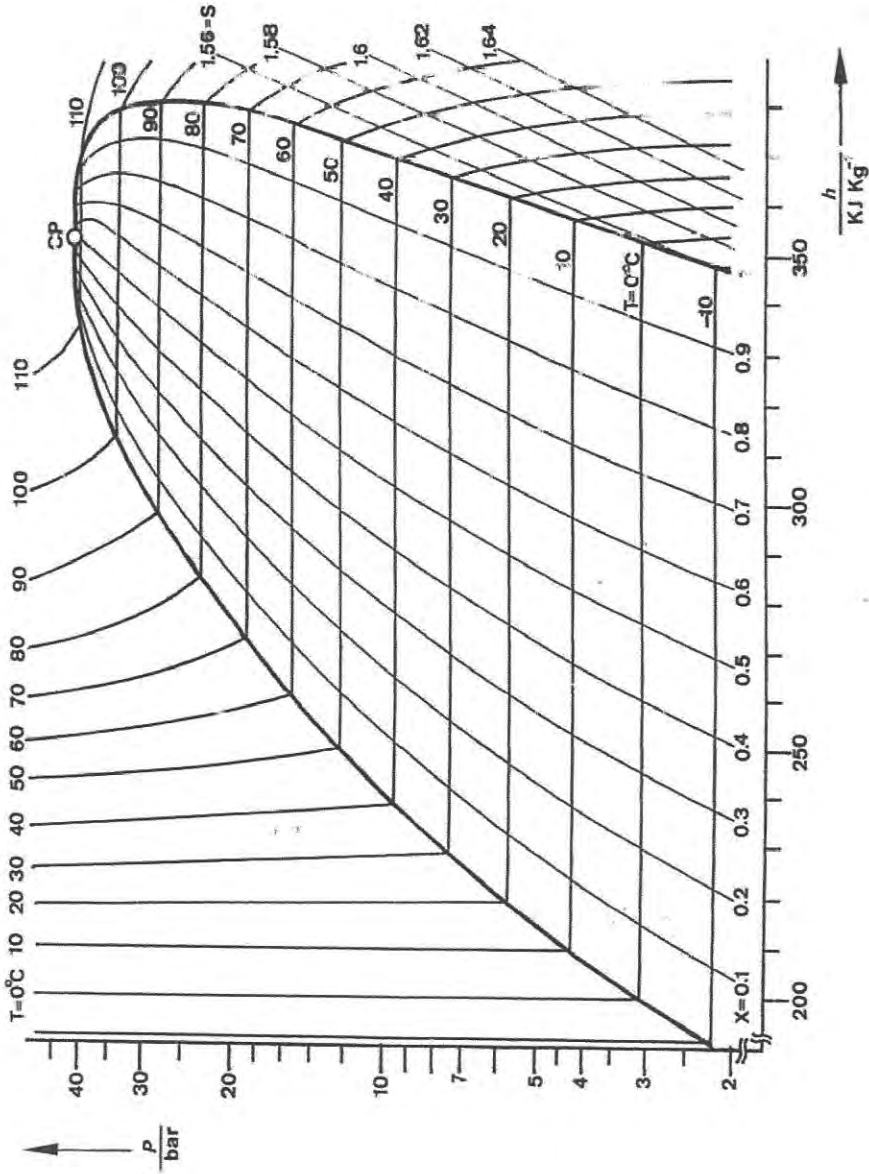

Figure 2: Simplified $lg(p)$ - h diagram according to Mollier
- (a) By referring to the data given, plot the data into the Mollier diagram (Figure 2), and draw the characteristic line of the circular process.